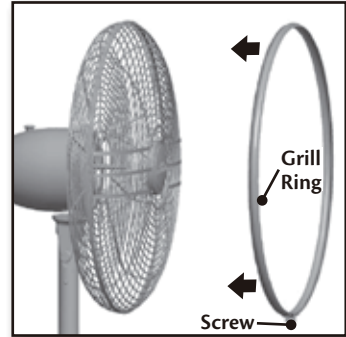

Figure 17
8. Expand the grill ring by loosening the screw that secures it. Figure 17.
9. Slide the grill ring over both front and rear grills turning the ring so that the screw is on the bottom. Figure 17.